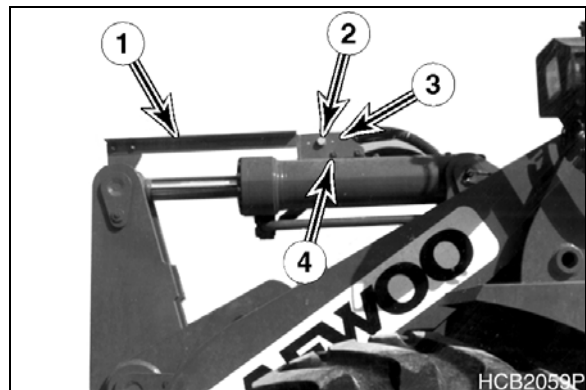

Figure 45
3. Loosen bolts (4, Figure 45) on bracket (3).
4. Position bracket (3, Figure 45) so that end of arm (1) is aligned with center of magnetic switch (2).
5. Tighten bolts (4, Figure 45).
6. Start engine. Raise boom, dump bucket, then move bucket lever into crowd detent position. Now lower boom and check to see that bucket has stopped at required position. A small readjustment of bracket (3, Figure 45) may be necessary.